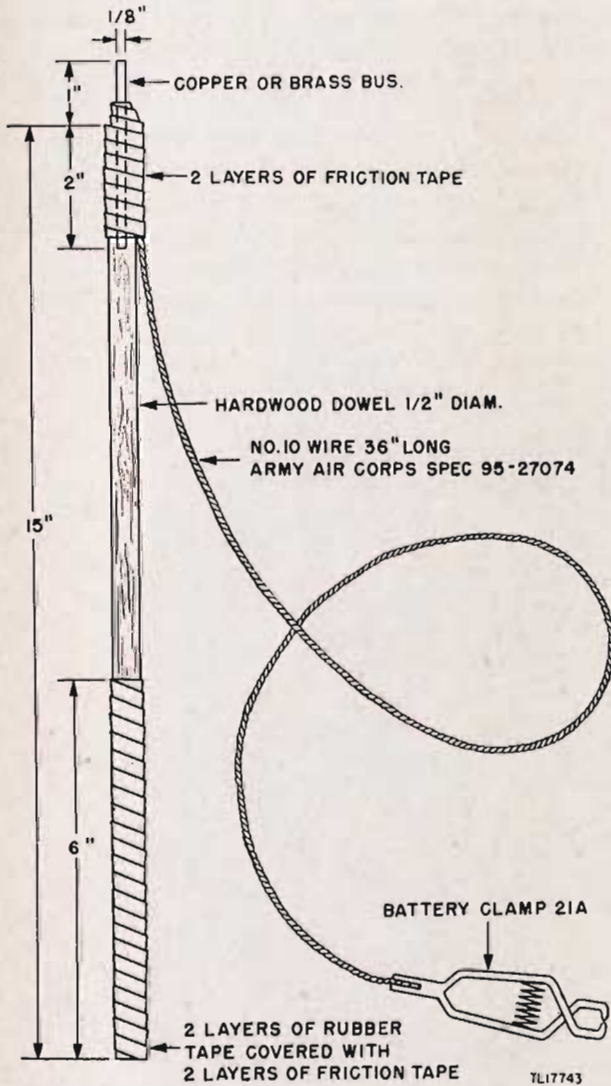

Figure 66. Shorting stick.
b. Manufacture of Shorting Stick. Obtain a hardwood dowel, 1/2 inch in diameter and 15 inches long. Drill a 1/8-inch hole in the end of the dowel, extending 2 inches from the end (fig. 66). Press fit a piece of copper or brass bus wire into the hole, leaving approximately 1 inch of bus wire extending beyond the limits of the dowel. Solder one end of a 36-inch length of flexible, stranded No. 10 Wire, Air Corps Specification 95-27074 (or equal) to the bus wire, as close to the dowel as possible. Attach a battery clamp No. 21A to the other end of the flexible wire. Apply several layers of friction tape over the soldered connection of the flexible wire and the bus wire, leaving approximately 1/2 inch of the bus wire extended untaped. Continue the tape from the soldered connection down over the dowel and the insulated wire, firmly attaching the wire to the dowel for a distance of 2 inches from the soldered joint. Apply two layers of rubber tape and two layers of friction tape to the opposite end of the dowel, extending the tape upward 6 inches to form an insulated handle for the shorting stick.